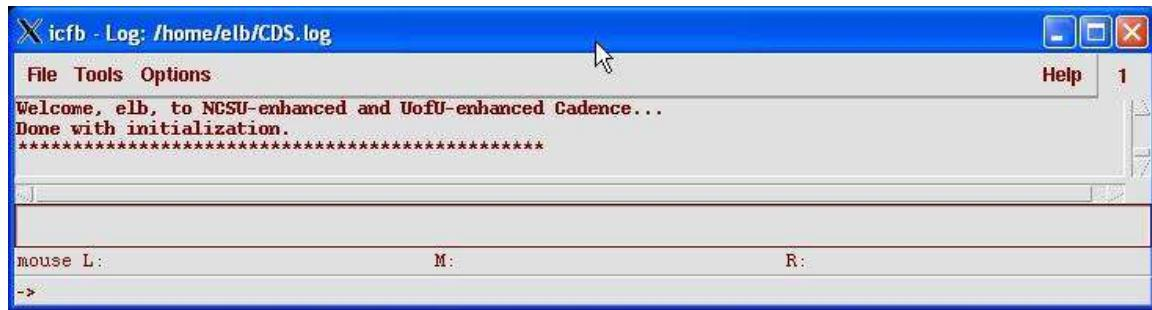
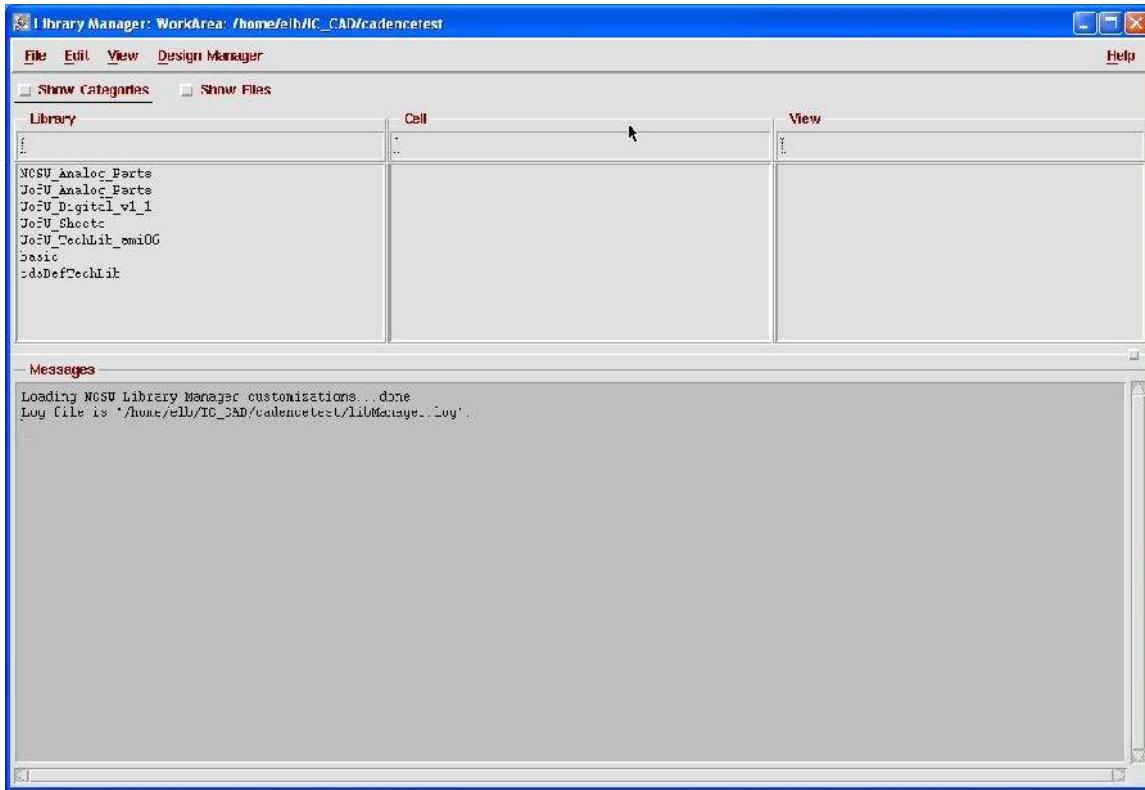

Figure 2.1: Command Interperter Window (CIW) for cad-ncsu
Figure 2.2: Library Manager window in cad-ncsu
You should see two windows once things get started up. The first is the **Command Interpreter Window** or CIW. It's shown in Figure 2.1. The other is the **Library Manager** shown in Figure 2.2. The CIW is the main command interface for all the dfll tools. In practice you will probably not type commands into this window. Instead you'll use interfaces in each of the tools themselves. However, because most of the tools put their diagnostic log information into the CIW, you will refer back to it often. Also, there are some things that just have to be done from this window. For now, just make sure that your CIW looks something like the one in Figure 2.1.
1. Start up Cadence dfII by running the command `cad-ncsu`, as described in Chapter 2. You may have used (and may still be using) a different setup for a different class, but please use `cad-ncsu` for this class. You should get a window (called the **Command Information Window** or CIW) similar to the one shown in Figure 2.1.
2. You should also get another window for the **Library Manager** as shown in Figure 2.2. The libraries that you'll see in the default **Library Manager** window are described in Chapter 2.